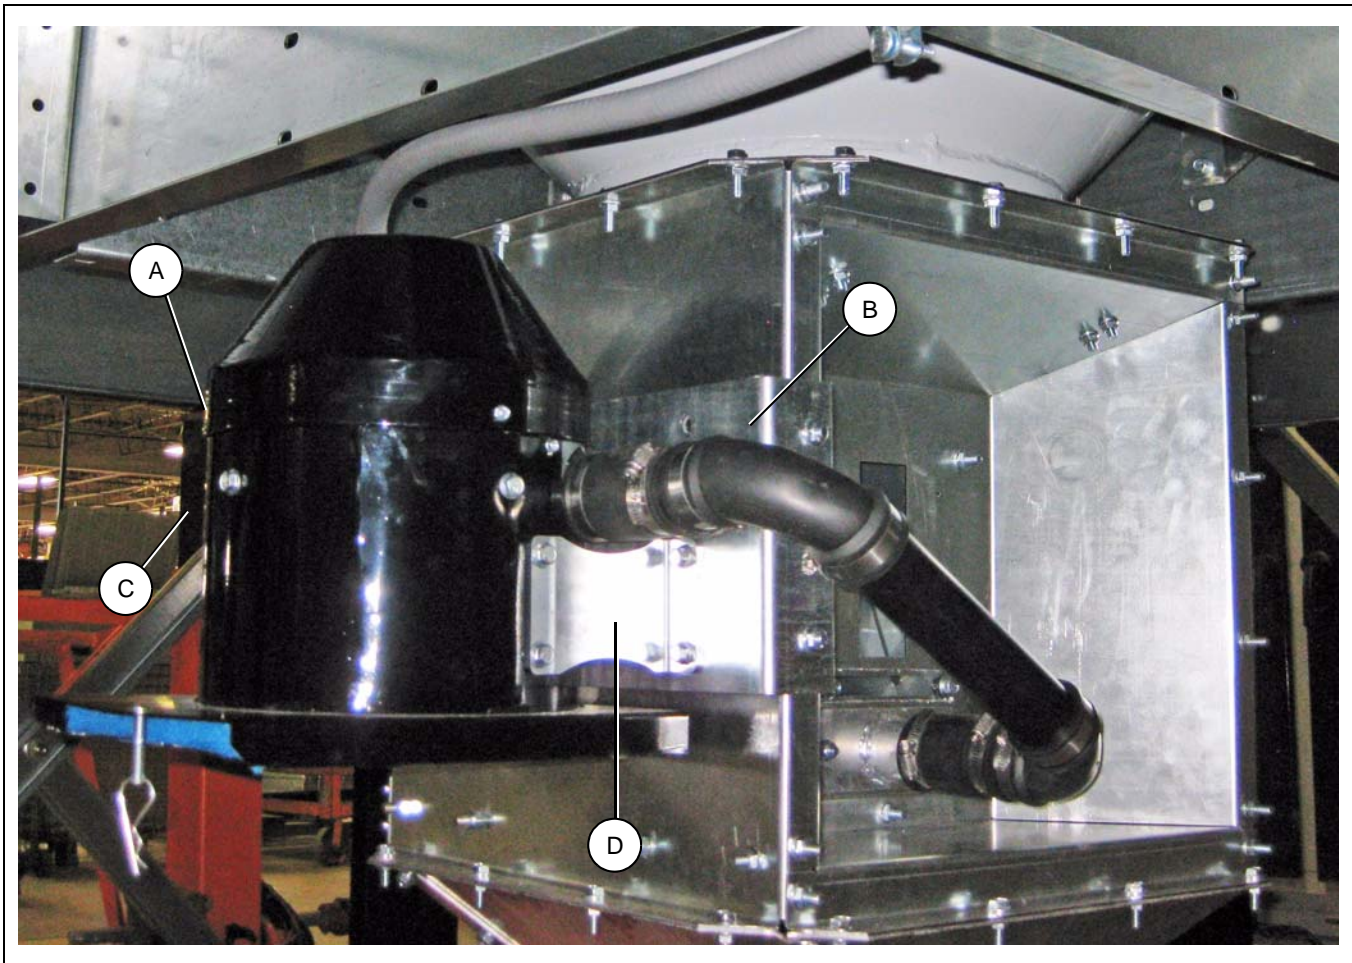

Figure 2D
3. Install the blower cover weldment (D04-1017-BK) to the blower mounting brackets (C and D) using 5/16" nuts. (*See Figure 2D.*)